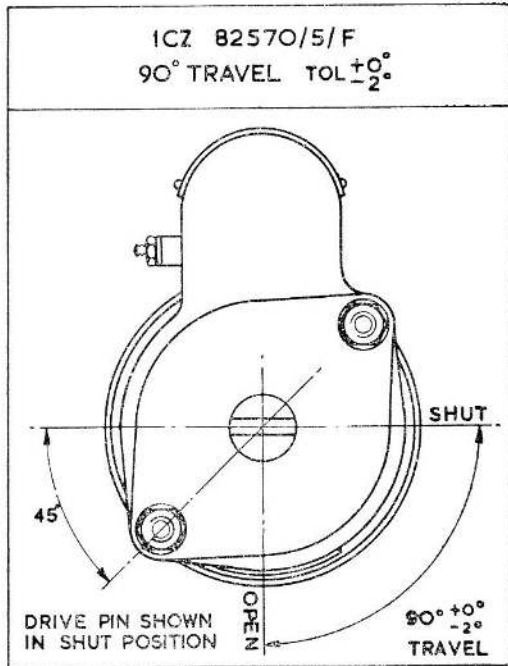

Fig. 7. Angular stroke travel drawing
18. The CZ82570/5/F actuator has 90 degrees angular travel in 3.0 seconds (fig. 7).